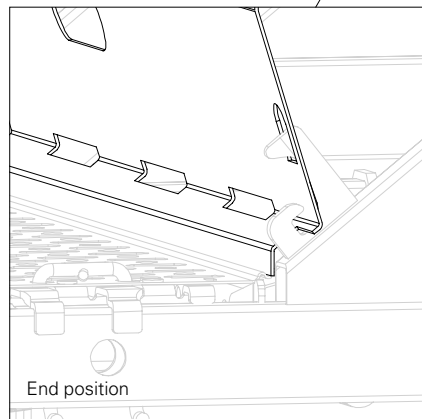
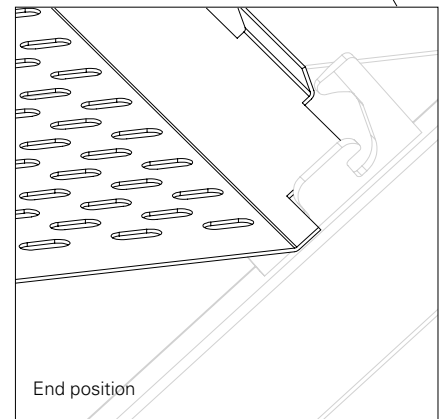

Fig. A2.04a
Fig. A2.04
4. Tilt the step until the top side rests against the Stair Stringers UA, and the bottom side is correctly positioned in the hook. (Fig. A2.04 and Fig. A2.04a)